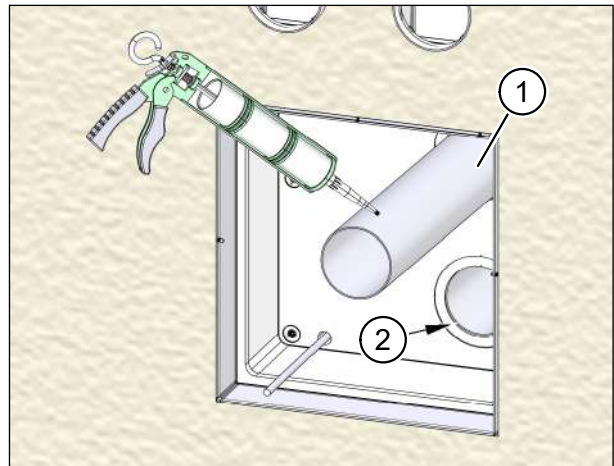

Fig. 69: Inserting and fixing the ventilation pipes
- ▶ Apply permanently elastic sealant to the outer skin of the ventilation pipes (item 1 in Fig. 69).
- ▶ Using a twisting motion, push the two ventilation pipes into the openings in the installation kit until they end flush with the inside of the installation kit (item 2 in Fig. 69).